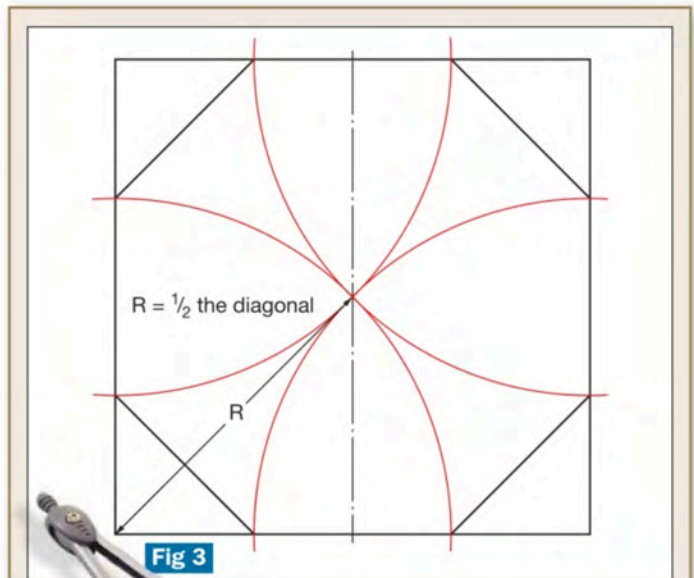

Fig 3
■ If you know the distance across opposite edges of the octagon, draw a square with sides matching this dimension. Measure the length of the diagonal and set your compasses to half its length. Place the compass point on each corner of the square in turn and draw an arc to intersect the adjacent sides. Then join up the points of intersection to create the octagon, **fig 3**.